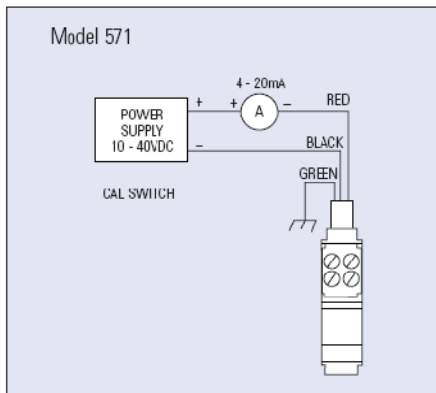

Figure 4 - Connection diagram for a typical magnetic module transmitter
- Insert a current meter into the 4-20 mA loop as shown in Figure 4 on the previous page